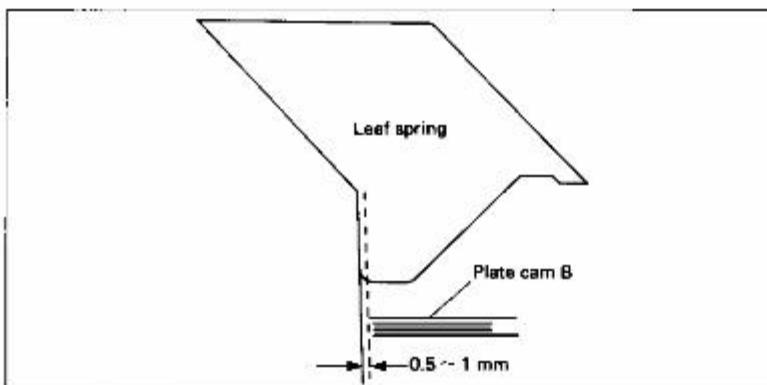

Fig. 5-6
- 1-2. By referring to Fig. 5-6, place the leaf spring at a distance of 1.0—1.2 mm inward from the cross section of the plate cam B and fasten with clamping screws.